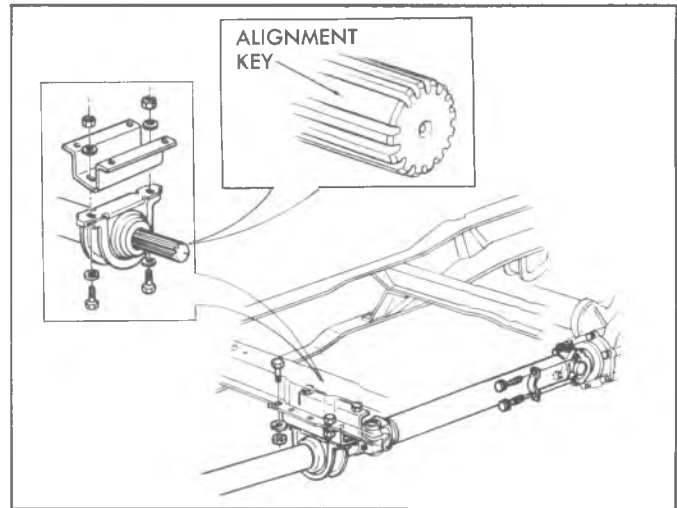

Fig. 28—C-P Propeller Shaft Alignment Key
2. For C-P models with two-piece propeller shafts, proper phasing is accomplished with the alignment key, shown in figure 28.